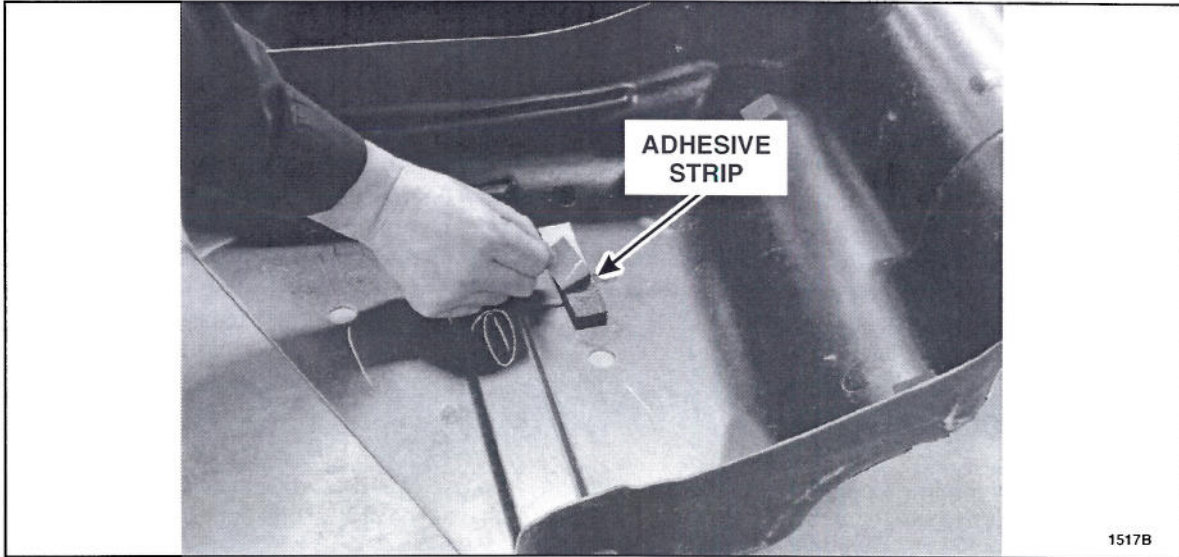

FIGURE 2
4. Remove the protective film from the *new* fuel tank shield adhesive strips and set the fuel tank into the *new* fuel tank shield. See Figure 2.